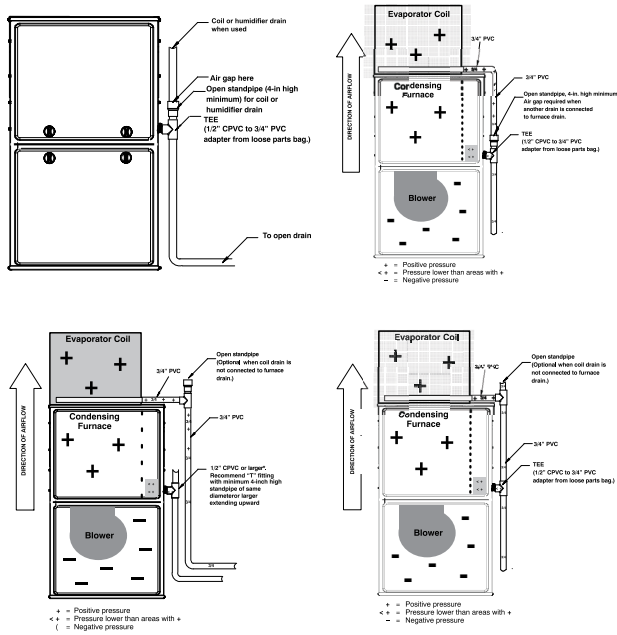

Fig. 12 – Example of Field Drain Attachment
A field-supplied, accessory Horizontal Installation Kit (trap grommet) is required for all direct-vent horizontal installations (only). The kit contains a rubber casing grommet designed to seal between the furnace casing and the condensate trap. See Fig. 12.
- All condensate piping is at least 3/4-in. PVC and there is a relief tee at the top of condensate drain piping as shown in Fig. 12.